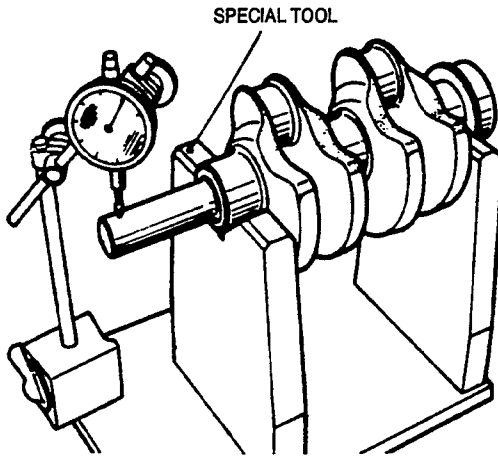

FIGURE 9-56. MEASURING CRANKSHAFT RUNOUT
- Place the crankshaft on a checking stand as shown in Figure 9-56 (special tool). Check the journals and pins for damage, uneven wear, cracks and clogged oil holes. Correct or replace the crankshaft if defective.
- Measure the runout of the crankshaft as shown in Figure 9-56. If the runout is excessive, correct or replace.